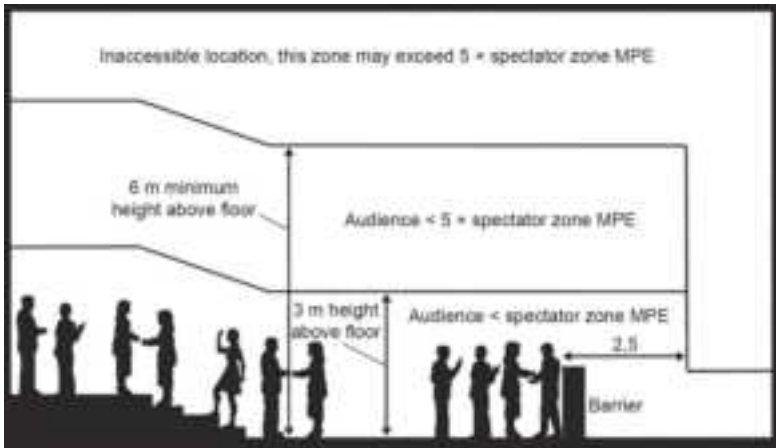

Figure 4 Audience/spectator separation from unattended beams
5. If the laser display or show is not under the continuous control of an operator who can immediately terminate laser beams in the event of a problem, a minimum separation distance of 3m in height and 2.5m laterally should be maintained between beams that exceed the spectator MPE exceeded by more than a factor of 5 in the space between 3m and 6m above any surface upon which spectators can reasonably be expected to stand. This condition is shown in Figure 4.